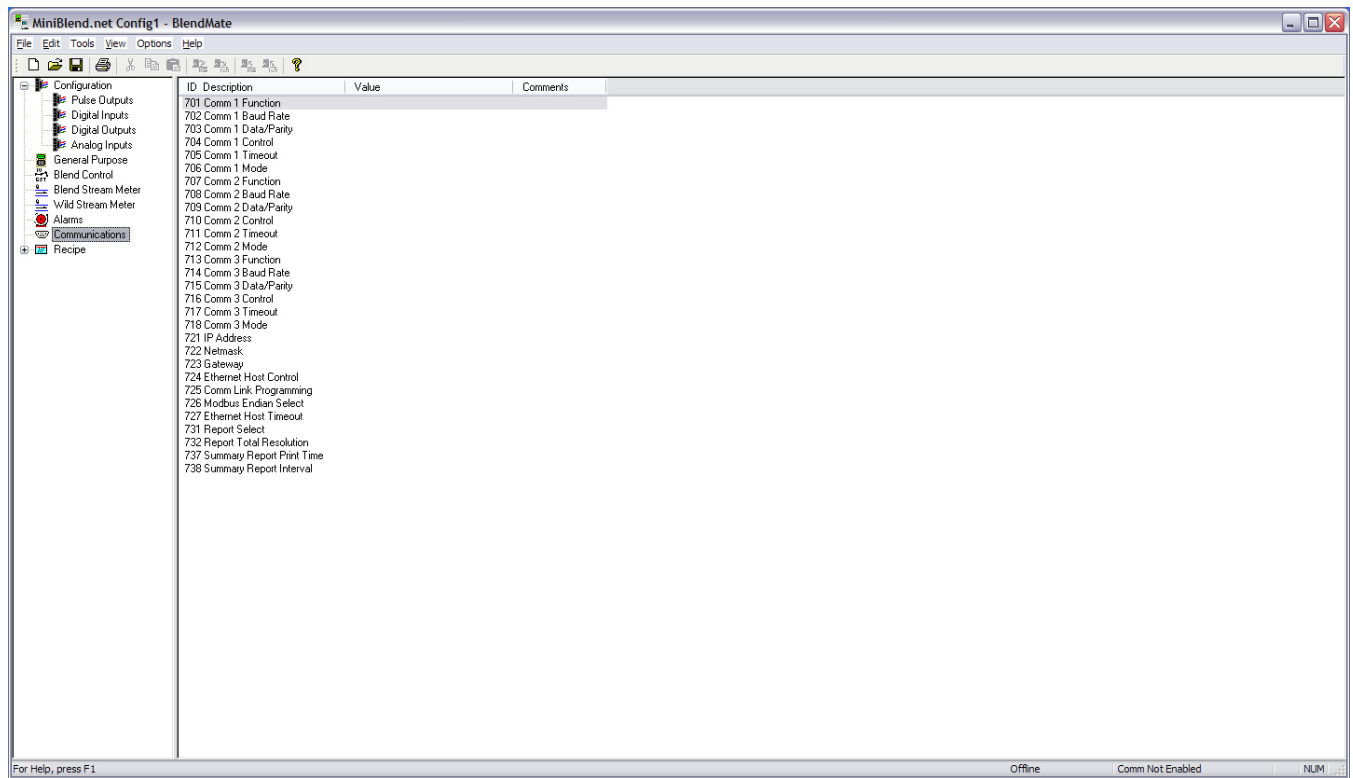

Figure 4 Communications Directory
3. A display similar to that shown below will appear on the computer screen. Communication configuration program codes are in the "700" System Communications group, as shown in Figure 4..